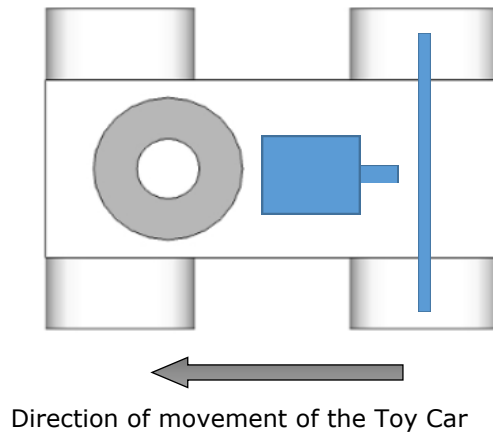

Figure 1
- a. Sketch a well-proportioned, freehand FRONT elevation, as a working sketch, which fully communicates the features shown in the 3D sketch, in the space allocated above which is labelled as 'FRONT'. (3)
- b. Figure 1 below shows, in hidden detail, the chosen driving axle of this toy car, where a DC motor will drive the rear wheels.
- i. Label the axle of the toy in Figure 1. (1)